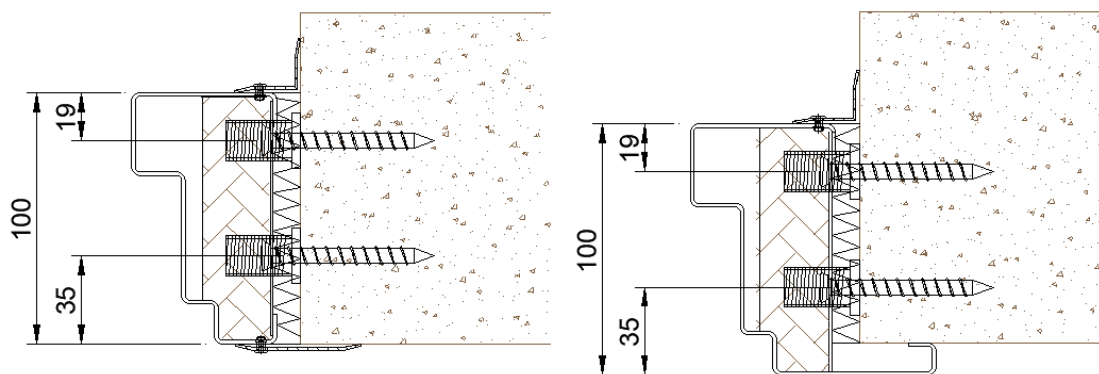

Figure 6 – Installation of the door into the structural opening SMU110/210
*doubled according to Figure 6